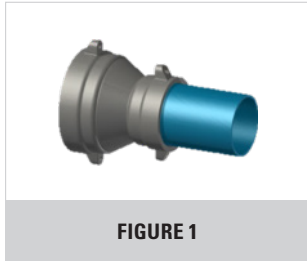

FIGURE 1
1. Assemble pipe per Figure 1 making sure the spigot end of the pipe is fully seated in the bell end of the pipe.
1. Assemble the mechanical joint, install gasket, gland and T-head bolts per AWWA C600 standard, leave out the T-head bolt corresponding to the restrainer ears per Figure 1.
1. Assemble the mechanical joint, installing gasket, gland and T-head bolts per AWWA C600 standard, leave out the T-head bolt corresponding to the restrainer ears per Figure 1.
- Figure 1, Push-On joint assembly per AWWA C600 — make sure the pipe spigot is beveled, ensure the fitting gasket seat is clean and dry prior to joint assembly. Insert the gasket into the fitting gasket seat and evenly lubricate the inside surface of the gasket only. Confirm the exterior pipe wall of the spigot end of the pipe is clean and free from raised or rough areas. Keeping the pipe straight with the fitting socket, insert the spigot end of the pipe fully against the pipe stop inside the fitting socket.